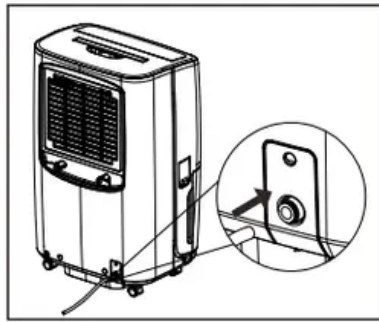

fig. 12
b. Insert the drain hose onto the drainage joint, make sure is connected well so that it is fully seated. (fig.12&13)